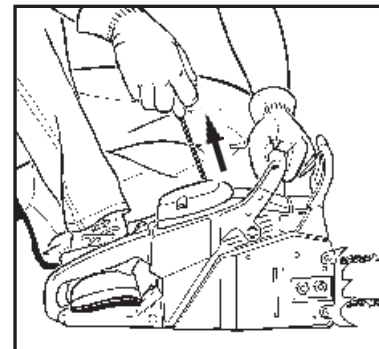

Fig. 5
4. Pull starter rope 4-6 times, engine should start (Fig. 5).
5. If engine failed to start, rotate choke lever down to vertical position then repeat step 4 (Fig. 5).